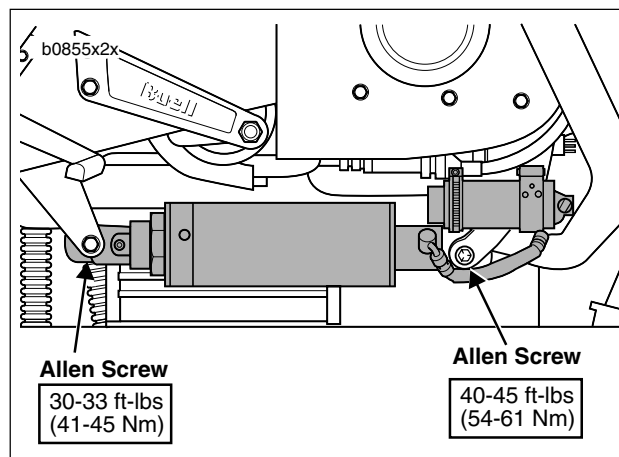

Figure 2-82. Shock Mounting Hardware
6. See Figure 2-82. Remove allen screw (metric) and locknut on front mount. Discard locknut.
2. See Figure 2-82. Loosely install rear allen screw (metric) and **new** locknut.